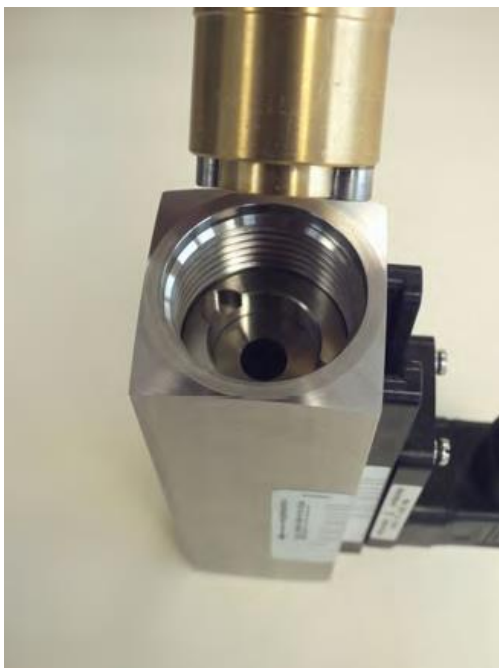

Fig. 43: Insert threaded ring insertion tool (inlet)
10. ► Insert the threaded ring insertion tool into the device inlet (Fig. 43) and turn until it rest in the keyway of the threaded ring